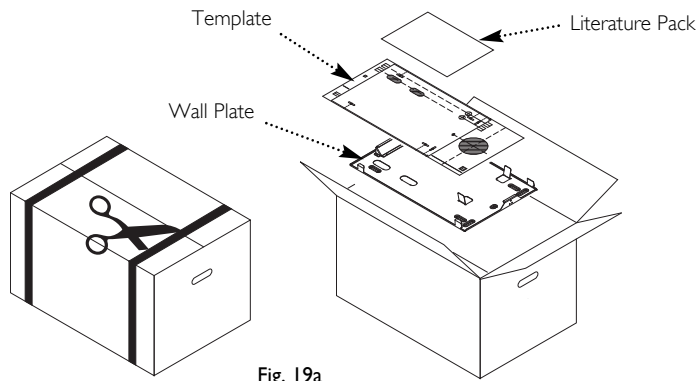

Fig. 19a
1. Cut the banding and remove the fixing template, wall plate and literature pack (Fig. 19a) from the carton.